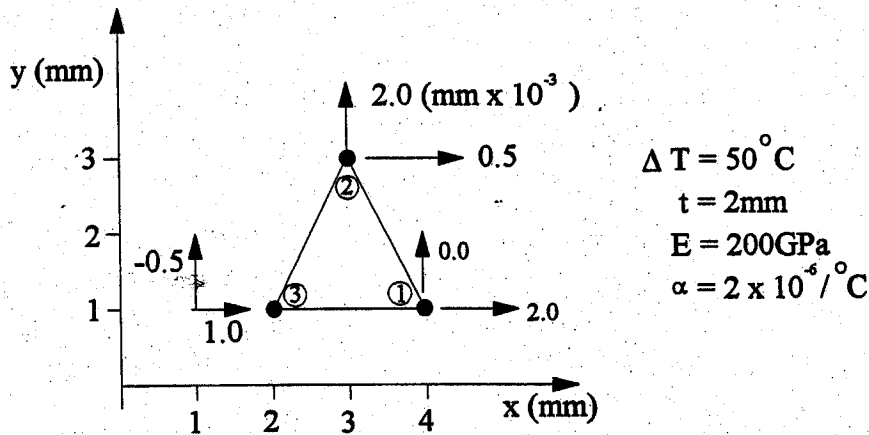

FIGURE 3
3. The results of a finite element analysis of an elastic membrane under plane stress assumptions generated the nodal displacement components as listed for the simple triangular element shown in Figure 3. These nodal displacements are due to a temperature rise of 50°C in addition to specified pressure loads.